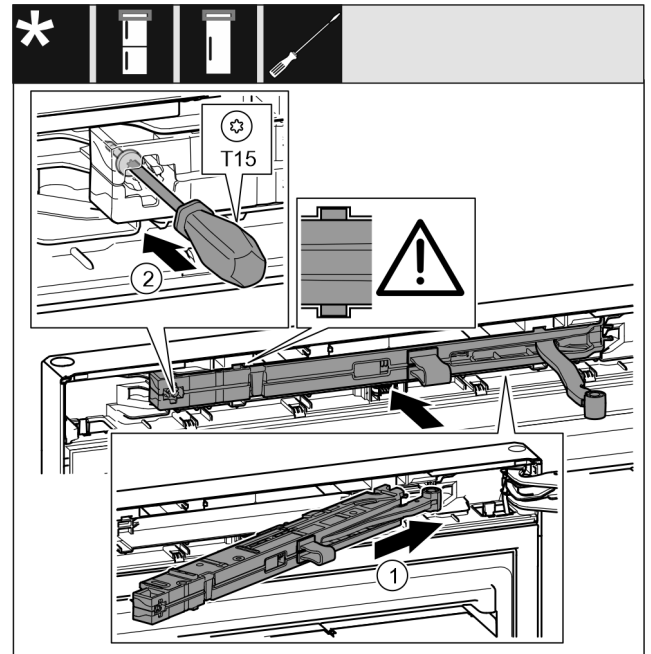

Fig. 19
- ▶ Slide the soft stop mechanism on the bearing bracket side at an angle into the recess as far as it will go. Fig. 19 (1)
- ▶ Tighten the screw using a T15 screwdriver. Fig. 19 (2)